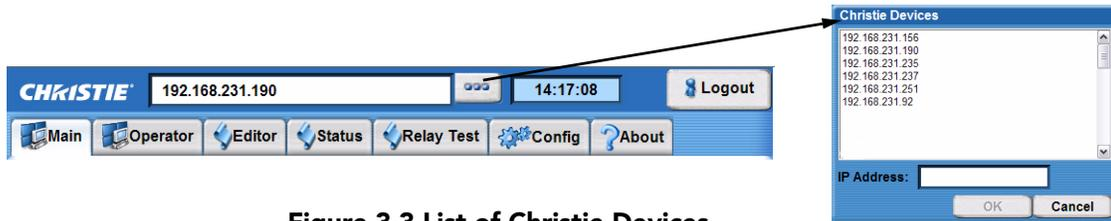

Figure 3-3 List of Christie Devices
1. Click the **Device** button to open the **Christie Devices** window (Figure 3-3).